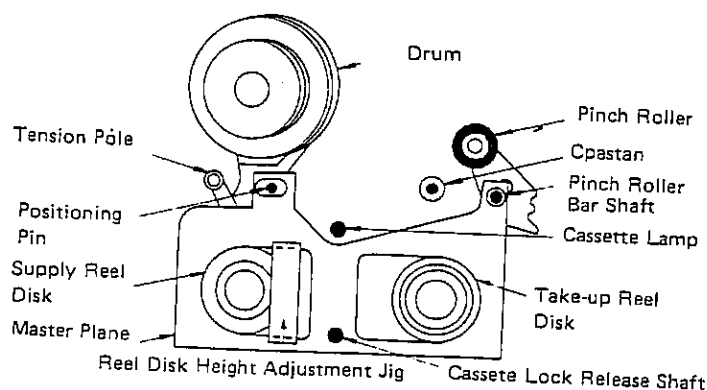

Figure 7
1. Remove the cassette housing and set the master plane in the mechanism as shown in figure 7, taking care not to touch the drum.